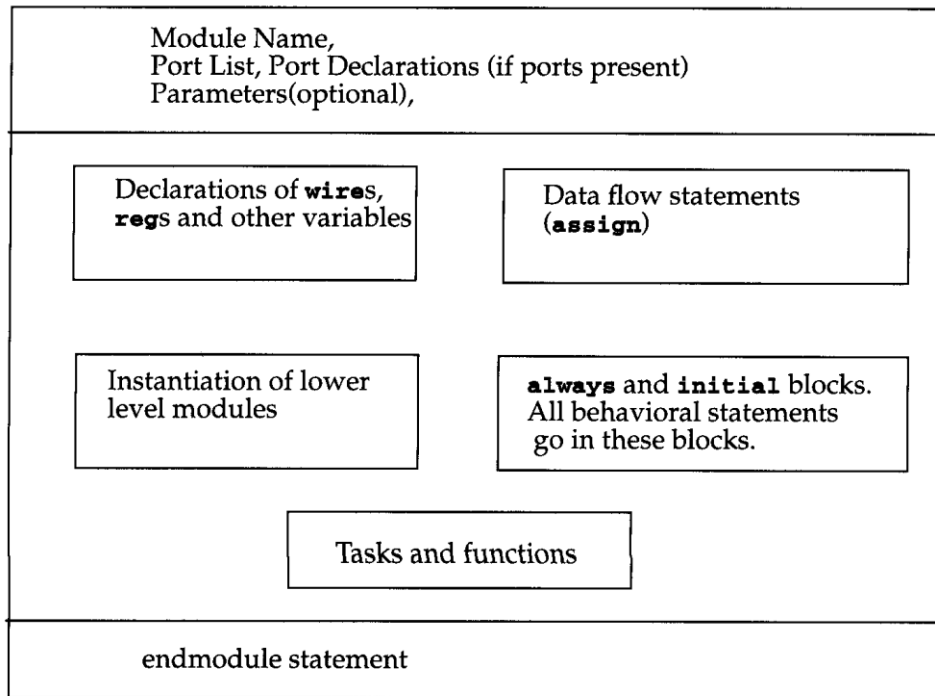

Fig.2.1: Components of a Verilog Module
- A module in Verilog consists of distinct parts, as shown in fig.2.1.
- In the SR latch definition above, notice that all components described in fig.2.1 need not be present in a module. We do not find variable declarations, dataflow (assign) statements, or behavioral blocks (always or initial).